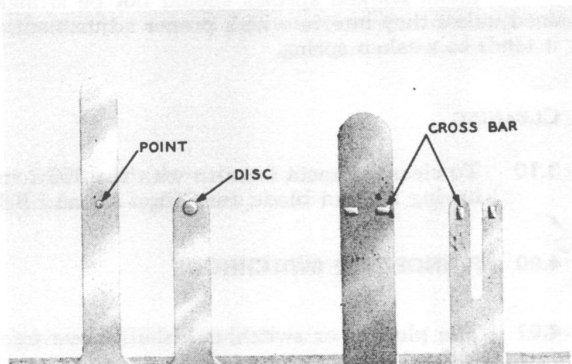

FIG. 1—POINT AND DISC AND CROSSBAR CONTACTS
3.01 Point and disc contacts shall line up so that the point falls wholly within the circumference of the opposing contact disc (see Fig. 1).
3.02 Crossbar contacts shall line up so the width of one falls wholly within the contact surface of the other (see Fig. 1).